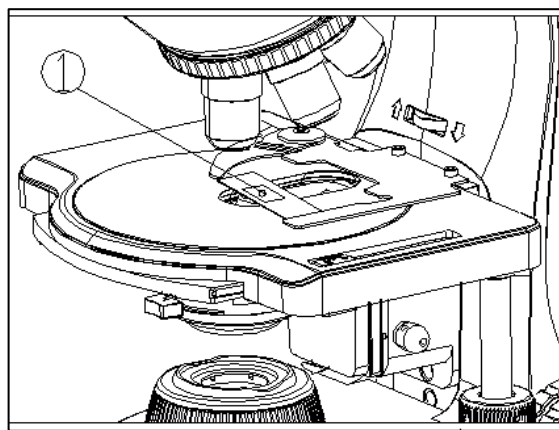

Fig. 16
Using the 100X Oil Immersion Objective – (Fig. 16)
Place a drop of immersion oil ① on the specimen (see Fig. 16).